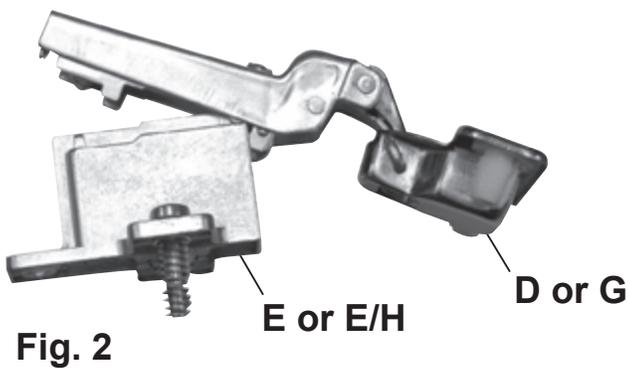

Fig. 2
2. Snap the handle of the Hinge (D or G) down on to each of the Hinge Plates (E or E/H) as seen in Figures 2 and 2a.